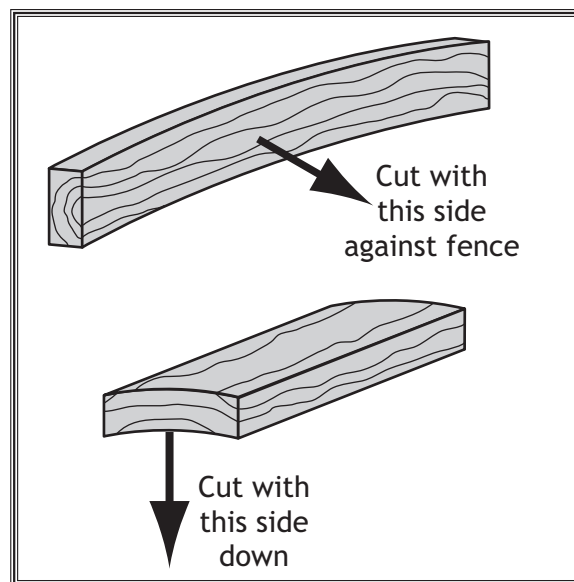

Figure 49. Cutting wood with minor warping.
- **Minor Warping:** Workpieces with slight cupping can be safely supported if the cupped side faces the table or fence, as shown in Figure 49. On the contrary, a workpiece supported on the bowed side will rock during a cut, leading to loss of control.